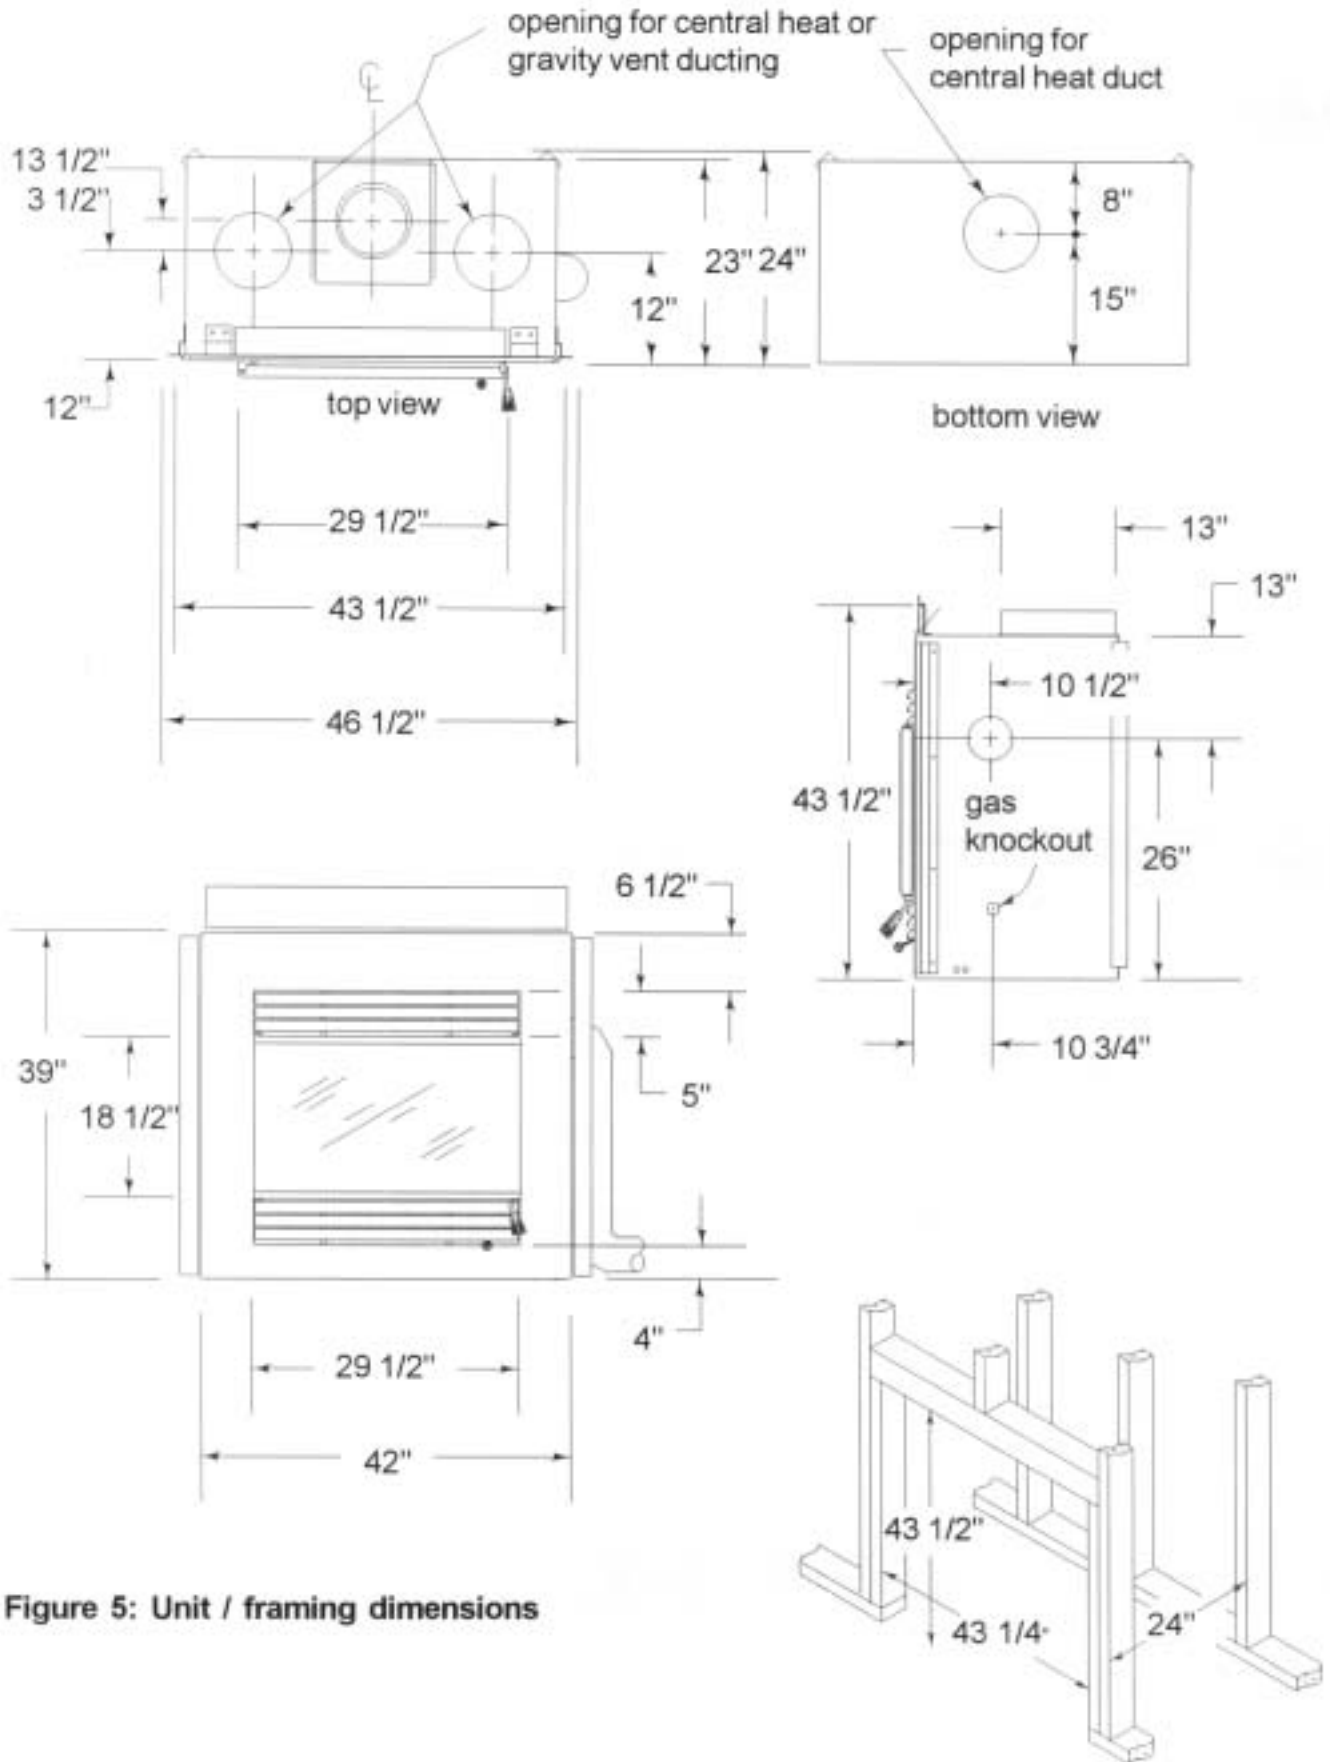

Figure 5: Unit / framing dimensions
The enclosure walls can be framed using any suitable materials (2 x 4 studs, plywood, gypsum board, etc.). See Figure 5 for dimensions. Normally, framing will be set back to allow the sheeting to be level with the front of the fireplace.
2. Frame an area to fit the ONYX. Follow the framing dimensions on Figure 5.